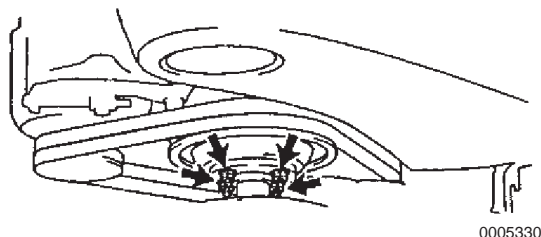

Figure 7-2
2. Loosen the six bolts for viscous damper and the four freshwater pump pulley nuts (**Figure 7-2**).